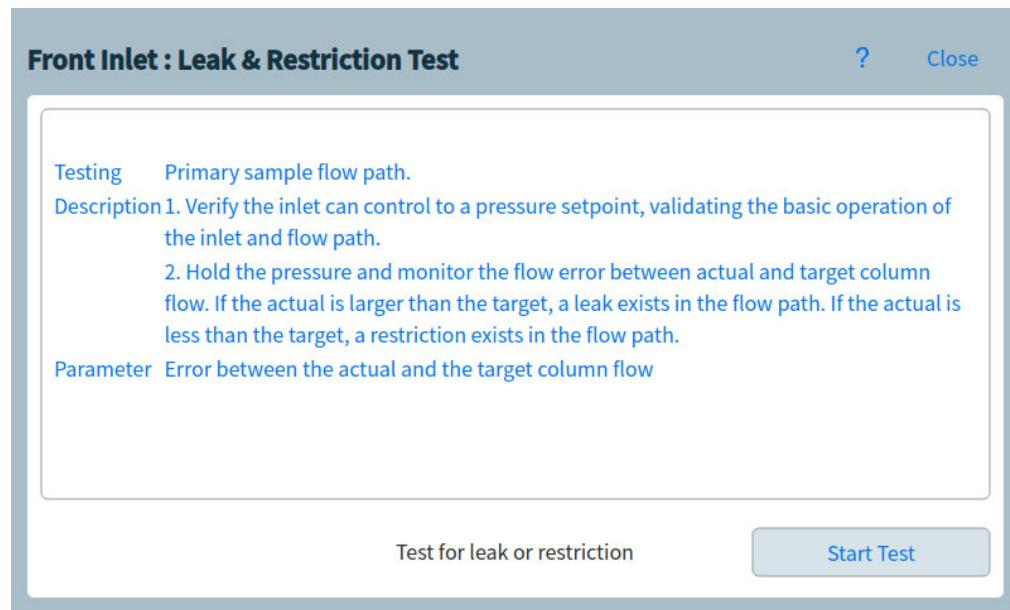

Figure 34. Leak & Restriction Test page
- 2 Select the desired test. The corresponding test page appears. The test page includes a test description and an indication of the parameter being tested. See Figure 34.